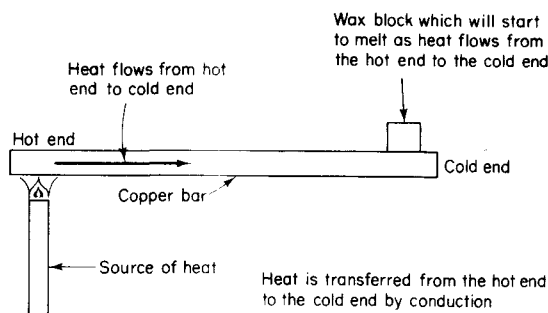

Fig. 2.55 Demonstration of conducted heat
2. **Conduction** (Fig. 2.55). If we heat one end of a copper bar, the other end of the bar soon becomes hot also. This means the heat from the hot end has been